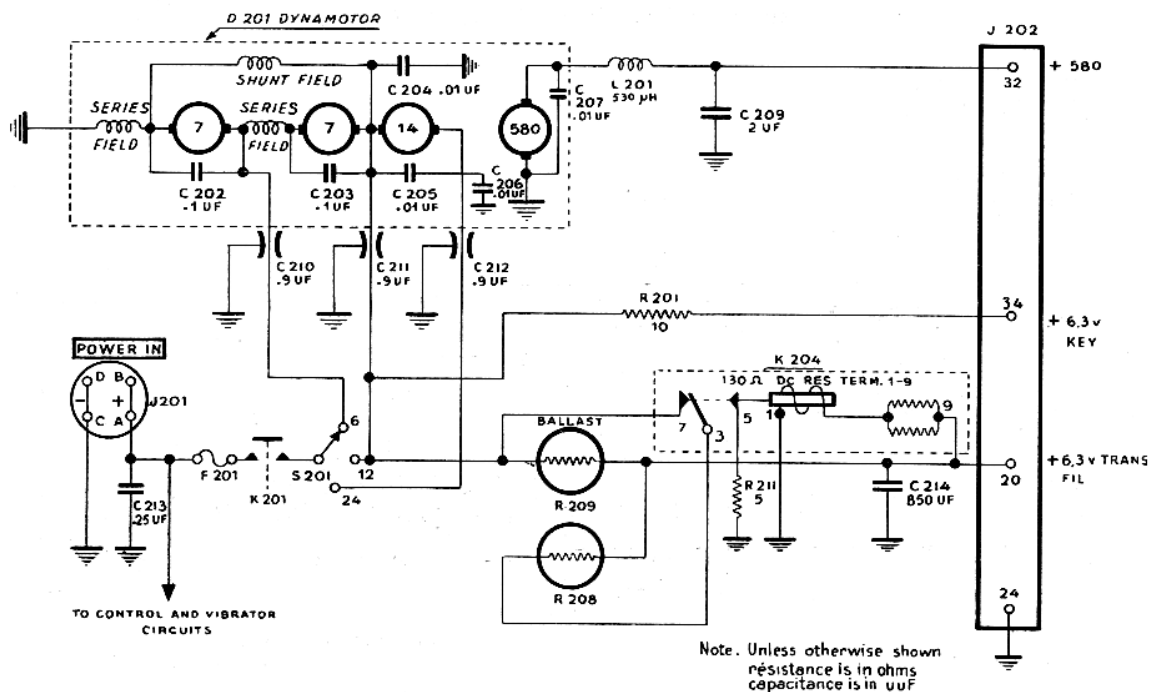

Figure 90.4. Dynamotor-Power Supply DY-88/GRC-9, dynamotor circuits.
b. **DYNAMOTOR START CIRCUIT.** Battery power is applied to the dynamotor through DYN FUSE F201, the closed contacts of dynamotor start relay K201, and voltage selector switch S201 (fig. 90.4). Voltage selector switches S201 and S210C permit operation from a 6-, 12-, or 24-volt battery.
d. The h-v output from the dynamotor is fed through terminal 32 of J202 and is applied to the p-a plate when control ③ is turned to the SEND position (fig. 90.4). No p-a plate current flows until keying relay K101 is energized and contacts 9 and 10 close to apply high voltage to the p-a screen (figs. 80 and 81).
125.7. Transmitter Filament and Keying Relay Supply (fig. 90.4)
c. All armatures have a common field, so that any non-driving armature acts as a generator. Thus when S201 (fig. 90.4) is in the 6-volt position, the first 6 volt armature acts as a motor and the second 6 volt armature acts as a generator and will produce approximately 6 volts that will add to the battery voltage to make approximately 12 volts dc. Likewise, when switch S201 is in the 24-volt position, the voltage across the two 6-volt armatures in series will be approximately 12 volts because of the voltage dividing action of motors connected in series. Therefore, with S201 in any position (6, 12, or 24 volts), the voltage across the two 6-volt windings of the dynamotor always will be approximately 12 volts. This characteristic provides a convenient source of voltage which can be reduced by means of ballast tubes R208 and R209 in parallel to 6.3 volts for the transmitter filament (par. 125.7) even though the battery of the vehicle may be above or below this voltage. Therefore, because of the regulating action of the dynamotor on 6 volts and on 24 volts and because of the regulating action of the ballast tubes, the transmitter filaments are assured of the well-regulated voltage that their filaments require. On 12-volt operation, the filament circuit is connected directly to the battery through ballasts R208 and R209.